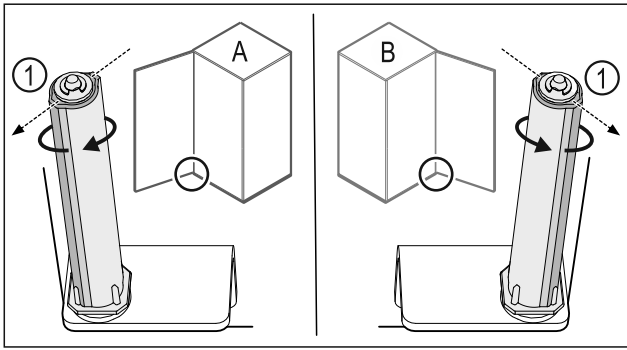

Fig. 45 Left stop (A) / right stop (B)
- ▶ Turn the locking system against the resistance until the bar on the locking system Fig. 45 (1) is pointing outwards.